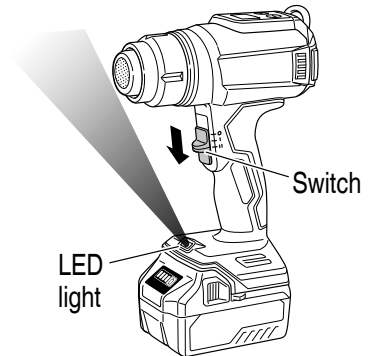

Fig. 13
3. How to use the LED light (Fig. 13)